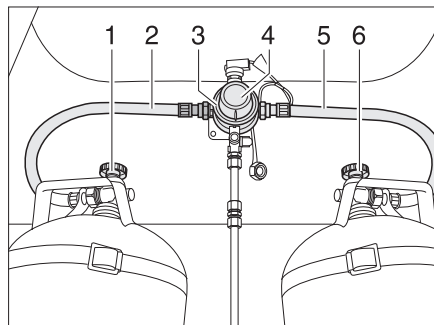
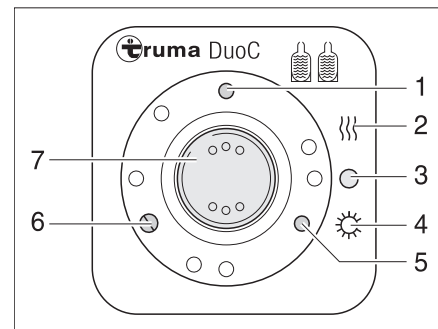

Fig. 90 DuoControl switching facility
Fig. 91 Operating unit
The DuoControl switching facility consists of a switching valve (Bild 90,3) and the operating unit (Bild 91). The switching valve is mounted between the gas tubes (Bild 90,2 and 5). The knob (Bild 90,4) on the switching valve is used to select which of the gas bottles is to be used as a primary bottle and which is to be used as a reserve bottle.
Only the electrical functions can be switched at the operating unit (Bild 91). The regulator taps on the gas bottles (Bild 90,1 and 6) must be opened manually.
The switching valve provides a constant gas pressure, regardless of which gas bottle is being drawn upon. The two indicator lamps on the operating unit show the filling level of the primary bottle. The primary bottle is full when the green indicator lamp (Bild 91,6) lights up. The primary bottle is empty when the red indicator lamp (Bild 91,5) lights up. The gas is then supplied via the reserve bottle.
- Open the regulator taps on the gas bottles (Bild 90,1 and 6).
- Use the knob (Bild 90,4) on the switching valve (Bild 90,3) to select the gas bottle which is to be the primary source of gas (primary bottle). Always turn the knob as far as it will go.
- Switch on the DuoControl switching facility at the operating unit (Bild 91). To do so, set the rocker switch (Bild 91,7) to winter operation "On and heating" (Bild 91,2) or to summer operation "On" (Bild 91,4). The switching valve is now vented. The yellow indicator lamp (Bild 91,1) lights up when winter operation has been selected and the regulator defroster is switched on.
- Set the rocker switch (Bild 91,7) to "O" (Bild 91,3). The yellow indicator lamp (Bild 91,1) goes out.
- Close the regulator taps on the gas bottles (Bild 90,1 and 6).
The indicator lamps on the operating unit (Bild 91,5 and 6) indicate in the vehicle interior whether the primary bottle is ready for operation.
If the green indicator lamp (Bild 91,6) goes out during operation and the red indicator lamp (Bild 91,5) lights up, the gas bottle selected as the primary bottle is empty and has to be changed. The reserve bottle continues supplying the gas appliances with gas.